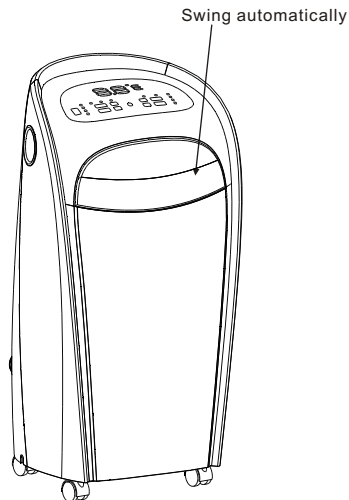

Fig.4
- **Adjust the air flow direction automatically (Fig.4):**